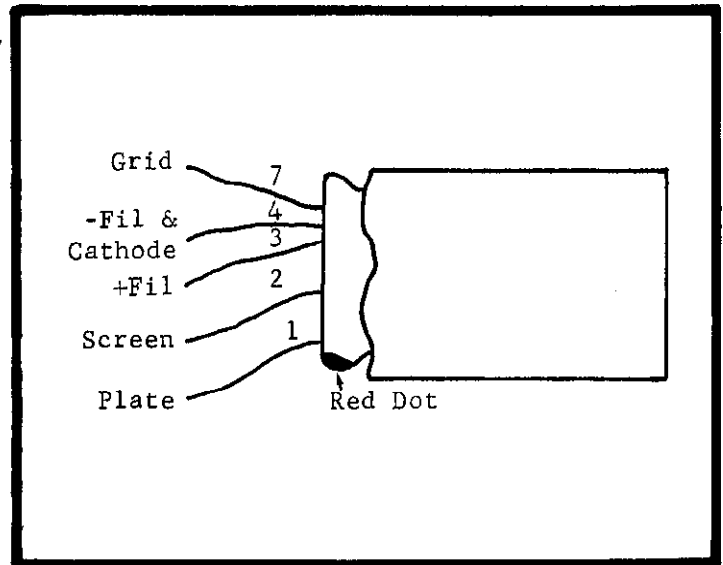

FIGURE 21. Base Connections for Electro-meter Tube.
b. Connect the Model 153 between the plates (Figure 21) of V101 and V102 (Figure 24). Adjust the zero potentiometer, R112 (Figure 22), for null. If null cannot be reached, check the tubes, the zero control circuit, and transistors Q101 and Q102 (Figure 23). Check the transistors by replacing them and adjusting for null again. If null is now reached, replace the transistor pair with a new pair.